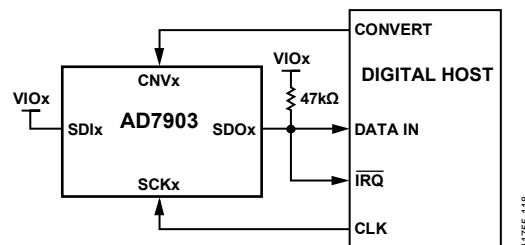
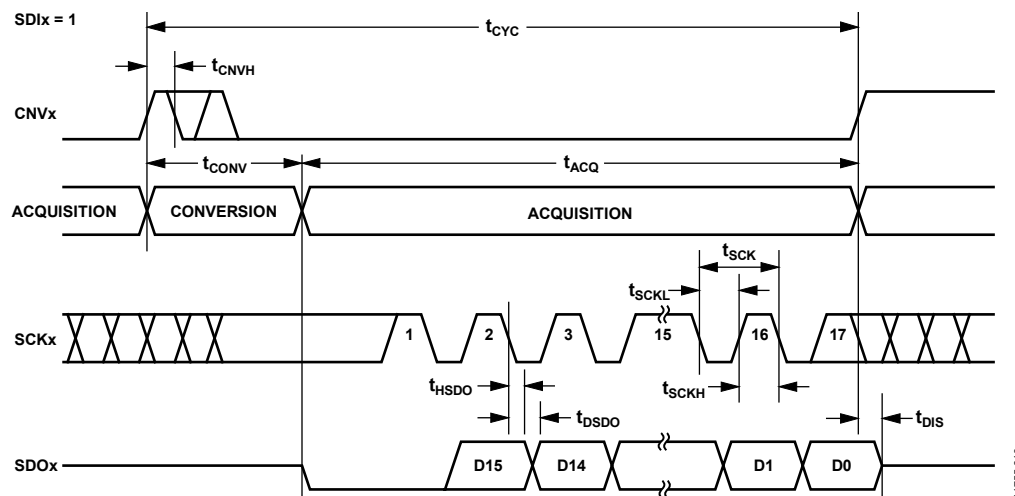
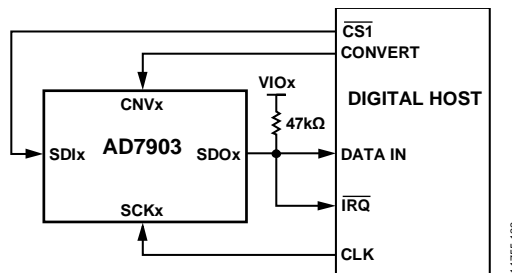
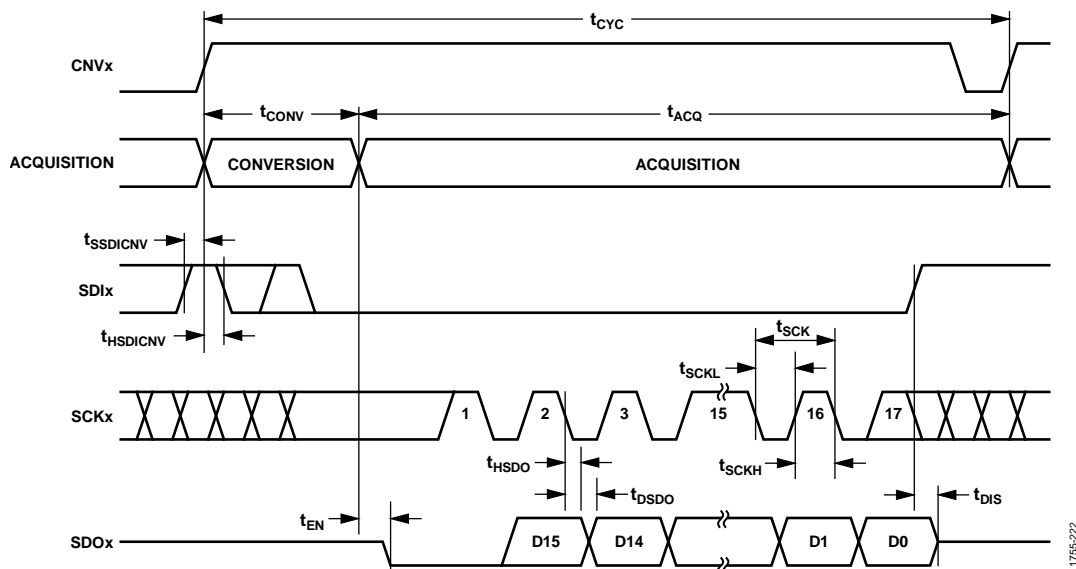

Figure 41. \overline{CS} Mode, 3-Wire Interface with Busy Indicator Connection Diagram ($SDIx$ High)
Figure 42. \overline{CS} Mode, 3-Wire Interface with Busy Indicator Serial Interface Timing ($SDIx$ High)
Figure 45. $\overline{\text{CS}}$ Mode, 4-Wire Interface with Busy Indicator Connection Diagram
Figure 46. $\overline{\text{CS}}$ Mode, 4-Wire Interface with Busy Indicator Serial Interface Timing
- In \overline{CS} mode if CNVx or SDIx is low when the ADC conversion ends (see Figure 42 and Figure 46).
The connection diagram is shown in Figure 41, and the corresponding timing is shown in Figure 42.
The connection diagram is shown in Figure 45, and the corresponding timing is given in Figure 46.